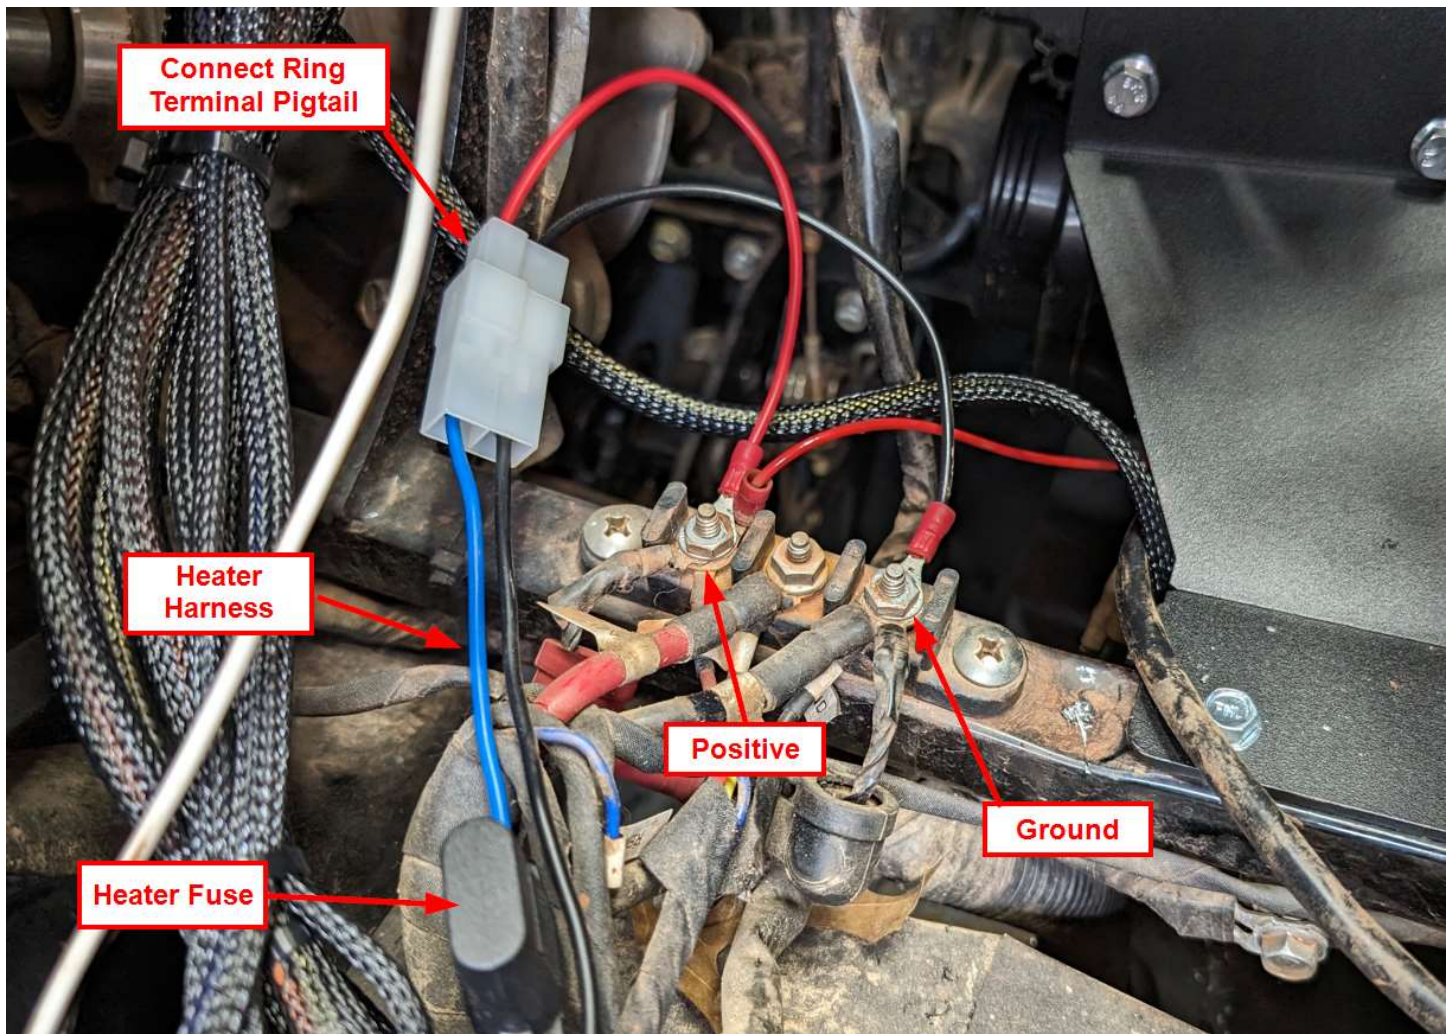

Figure 24
- d. Insert the included Ring Terminal Pigtail to the 2 Pin connector on the wiring harness. Install the Ring Terminals to the Auxiliary Bus Bar as shown in Figure 24.